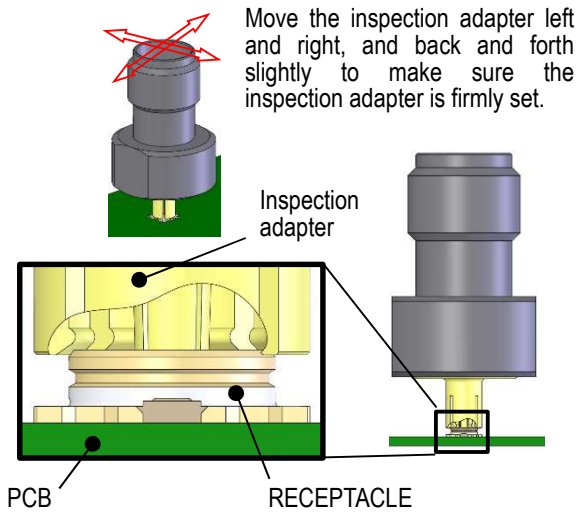

Fig. 8
- ① Put the PCB mounting with RECEPTACLE on the table and set the inspection adapter. Move the inspection adapter left and right, and back and forth slightly as shown in Fig. 8 to make sure the inspection adapter is firmly set.